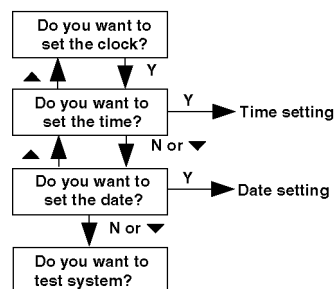

Fig. 6 'MINERVA' Controller - Set Clock Menu
- 1) Either select the 'Set Clock' option from the Main Menu. The menu shown in Fig. 6 will be displayed. The menu options are selected as described in section 3.4.1, or,